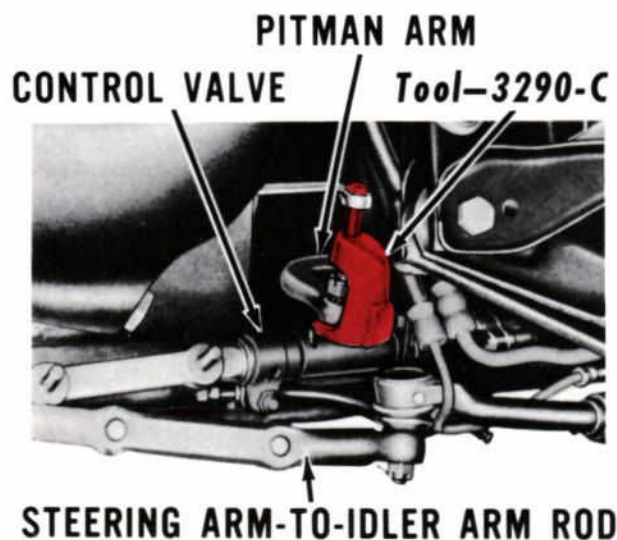

Figure 12—Disconnecting Control Valve from Pitman Arm
4. Remove the cotter pin and the castellated nut that secures the control valve to the pitman arm; then remove the control valve from the pitman arm using tool 3290-C (Fig. 12).
Ford tool 3290-C must be used as shown in Figure 12 to prevent damage to the actuator assembly.